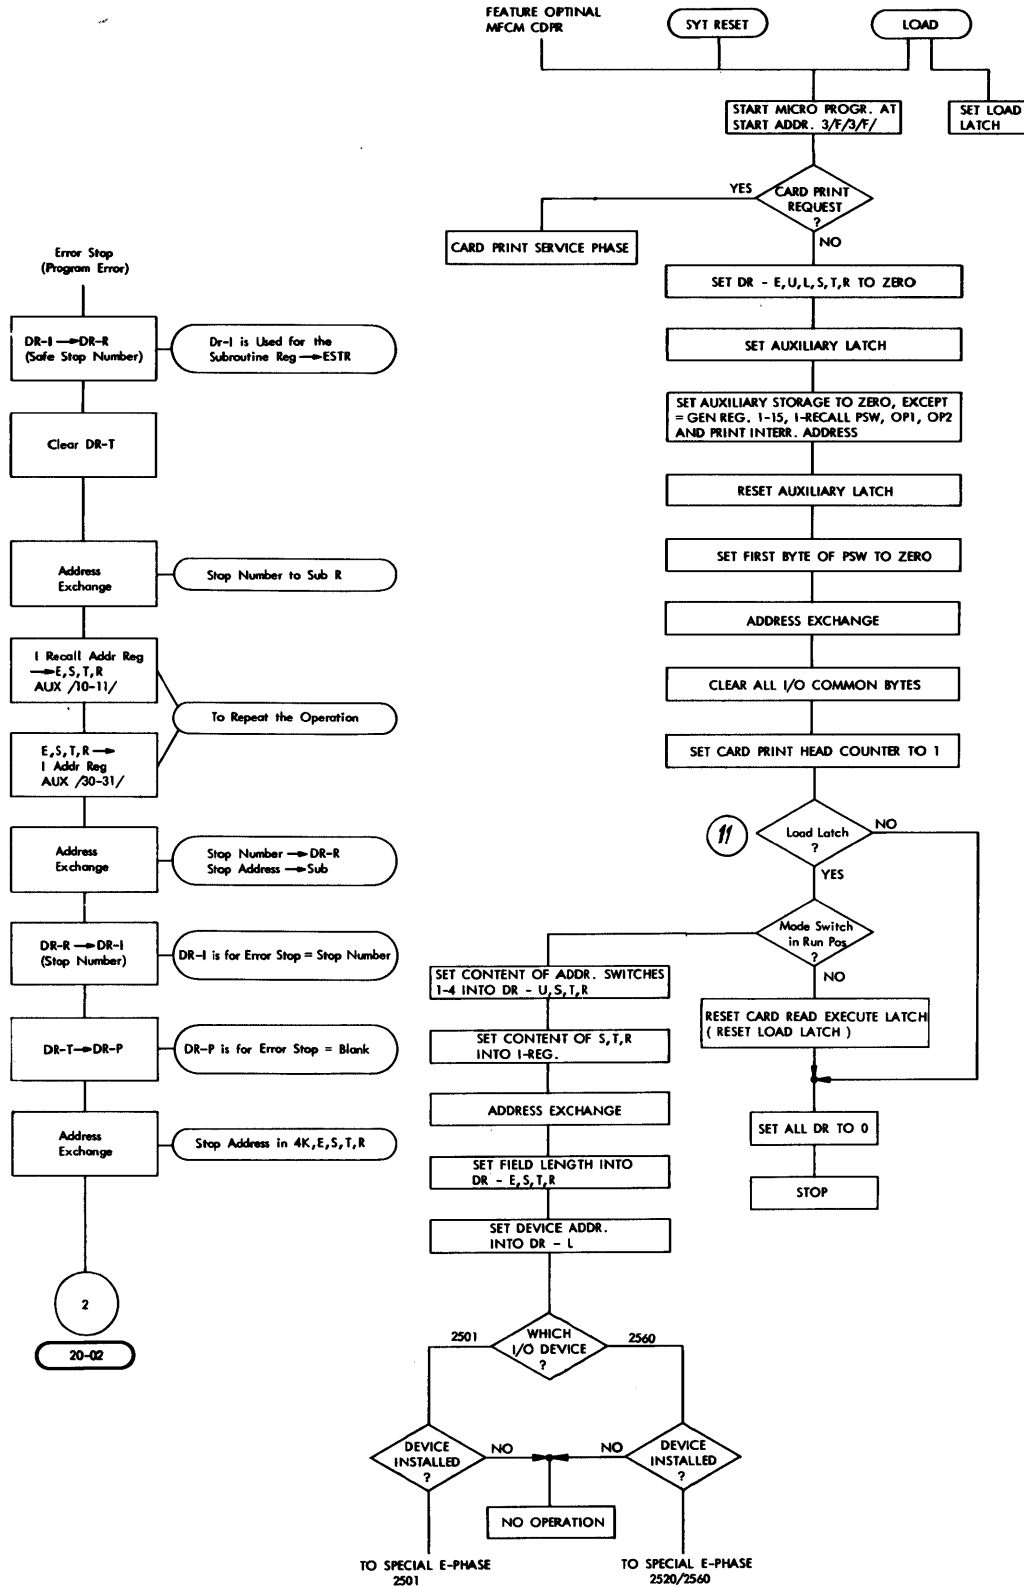

Figure 3-27a Manual Routine 2
8. If the CPU has an 8K storage, and if the DRA 1 bit is on, a carry caused by increasing DR-S is detected as a wrap around condition. If wrap around occurs, a /3/ is moved into DR-I to indicate this as an error condition. The CPU is stopped by the micro-program routine Error Stop (Figure 3-27a).
### Description (Figure 3-27a)